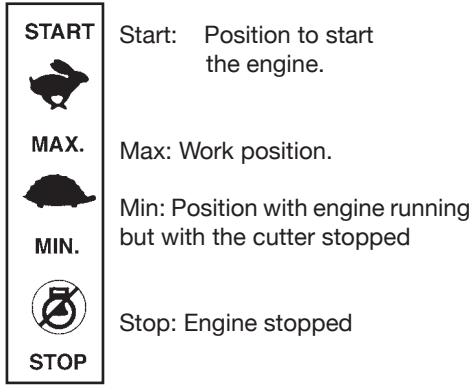

Fig. 13
Put the accelerator in the "START" position fig. 13
Move the accelerator lever to the "STOP" position fig.13. Release motorstop lever 1 shown in the figure. 11.
- With the engine running, put the accelerator in the -MAX- position Fig. 13 and lean on the plowtails to push the spur into the ground.